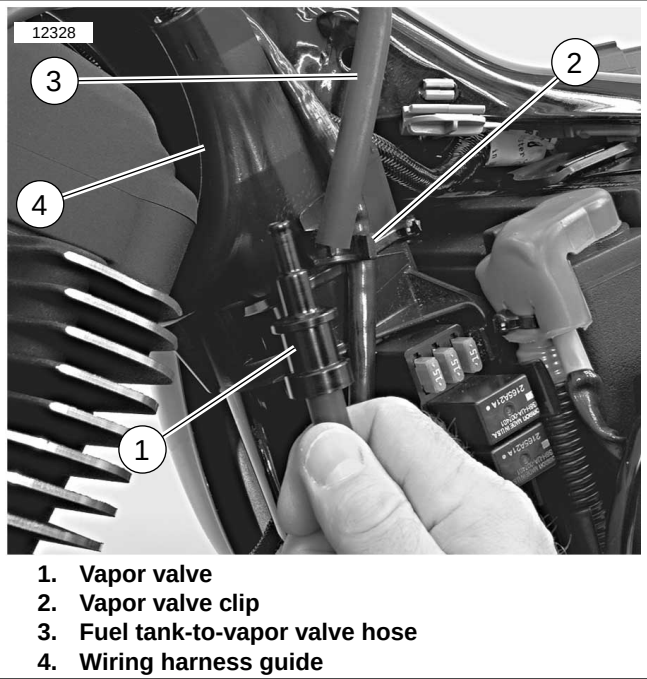

Figure 4-12. Vapor Valve Mounting
- See Figure 4-12. Mount the vapor valve (1) in an upright position with the longer fitting positioned at the top or excessive fuel vapor pressure may build up within the fuel tank.
- See Figure 4-12. Do NOT force vapor valve (1) into clip (2). Forcing valve in to clip could cause clip to break, necessitating replacement of entire wiring harness guide (4).